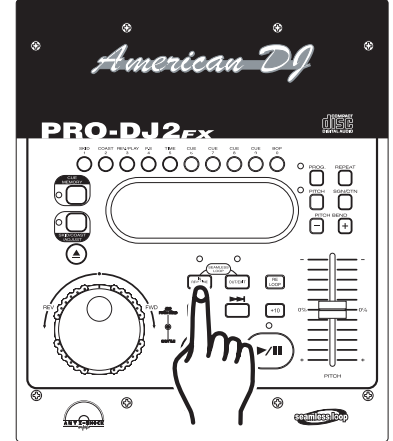

Figure 18
A cue point is the exact point playback will begin when the *PLAY/PAUSE BUTTON (19)* is pressed. A cue point may be anywhere on a disc or in a track. You may set and store up to five independent cue points per disk. Four cue points are stored in the *CUE BUTTONS (6)* and one in the *IN REALTIME CUE BUTTON (24)*. Once a cue point is set it may be recalled at any time during normal playback. Figures 18 and 19 will detail the procedures for setting your custom cue points. There are two ways to set a CUE point:
- 1) Press the *IN REALTIME CUE BUTTON (24)* on the fly (while a disc is playing). This will set a CUE Point without music interruption. Once this point is set, you may return to this point at any time by pressing either the *CUE BUTTON (17)* or the *BOP BUTTON (7)*. Pressing the *CUE BUTTON (17)* will stop playback and return the disc in cue mode, pressing the *BOP BUTTON (7)* will return the disc to cue point without music interruption and continue playback from that point.